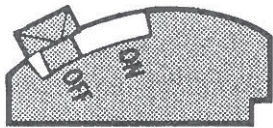

Figure 1
2. Move selector arm to the "off" position. (See figure 1.)